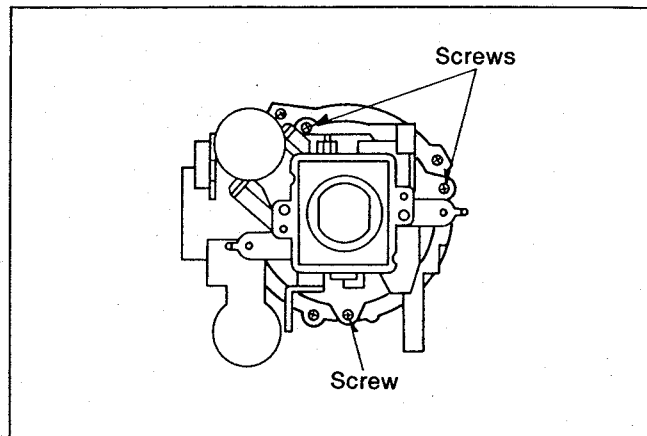

Fig. C5
- (2). Set the unit lengthwise that surface of Lens look down and remove the 3 screws as shown in Fig. C5.